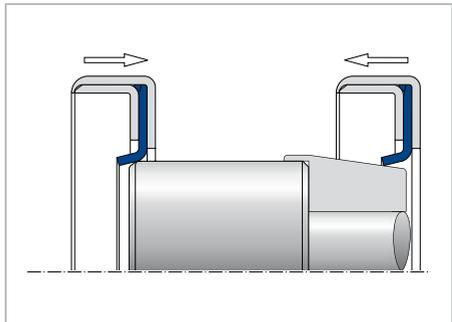

Fig. 51 Fitting a Simmerring with sealing lip made of PTFE
- When fitting over a groove of a tongue and groove joint on the shaft, the groove on the shaft must be covered with a protective cap (→ Fig. 51), to avoid damage to the sealing lip
It is important that the PTFE sealing lip is not damaged, especially when assembling the front side in the direction of the fitting. The use of a pilot shaft with a chamfer angle of $10^\circ \dots 15^\circ$ (\rightarrow Fig. 51) is recommended).